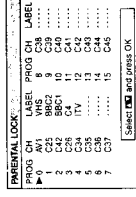

Fig. 26.
- 3 Select »Parental Lock« with  $\Delta$  + or  $\nabla$  – and press OK. The PARENTAL LOCK menu appears. (See Fig. 26.)